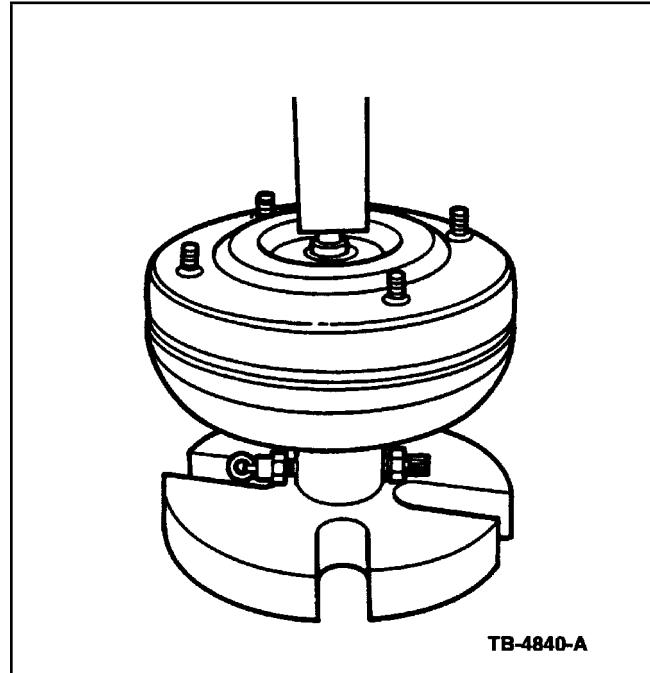

Figure 2 - Article 96-24-9
3. Place the torque converter with the tool installed into press and apply enough force to seal tool into the converter. Figure 2.